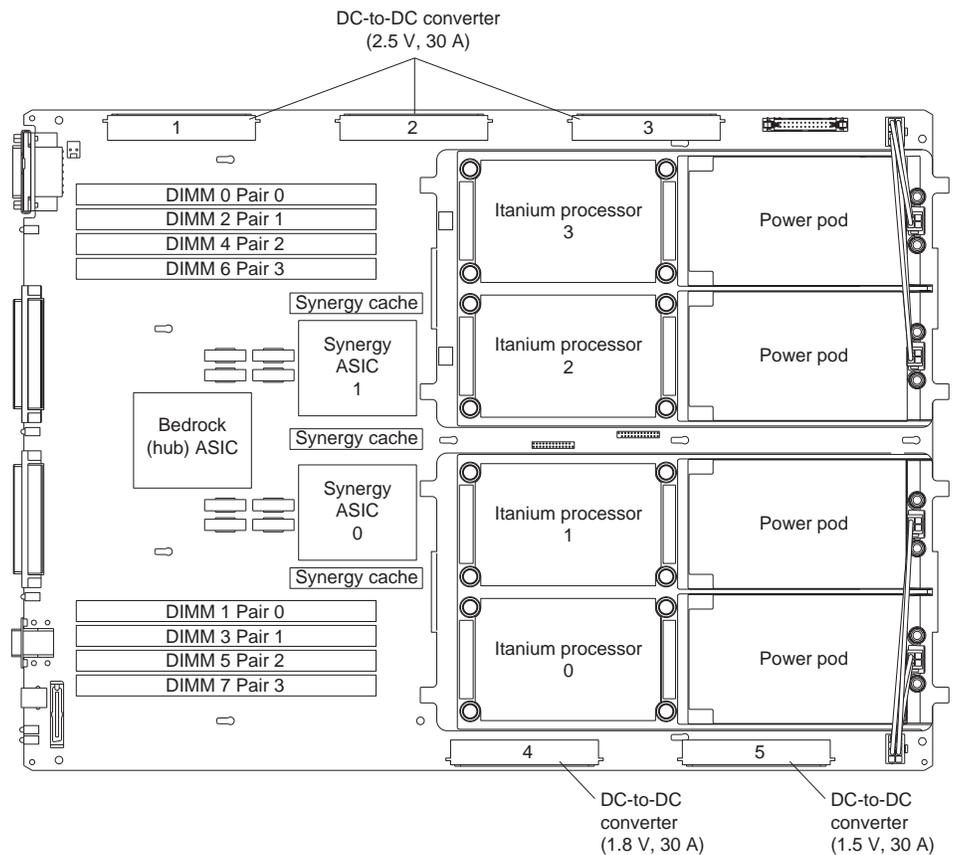

Figure 8-1 Memory DIMM and Processor Heat Sink Assy locations
- Install memory DIMMs in pairs (refer to Figure 8-1 for pair locations).
Refer to Figure 8-1 for DIMM pair locations.